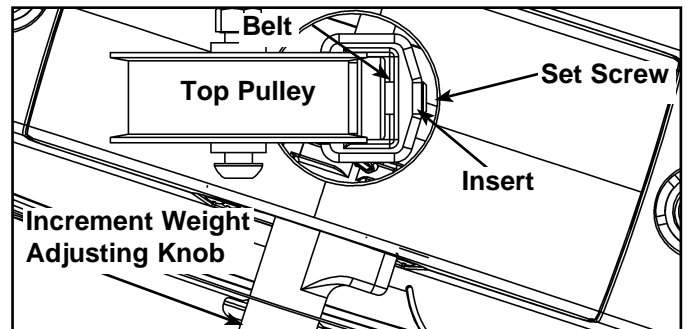

Figure 7
- C. Verify the belt clamp on the top weight is positioned properly with the top pulley. **NOTE:** The belt must have a straight path from the pulley to the belt clamp. See Figure 7. **NOTE:** Figure 7 shows the top view, looking from the top pulley down to the top plate. Slide belt through slot in belt clamp.